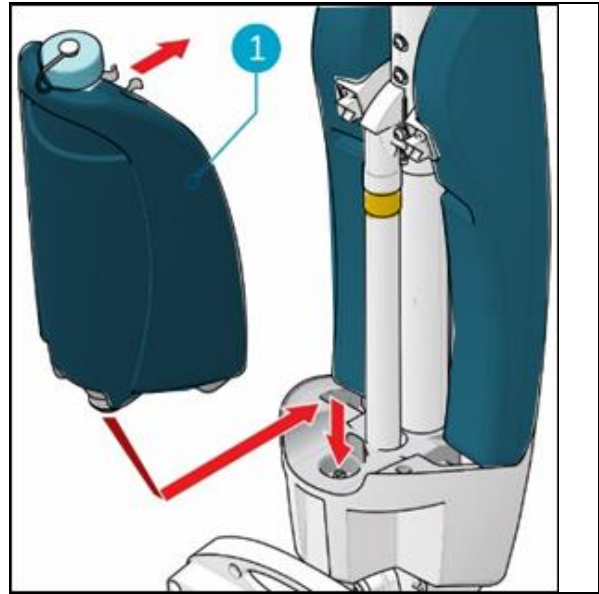

Figure 15
5. Put the tank on the i-mop® XXL with the valve first (Figure 15, pos 1).